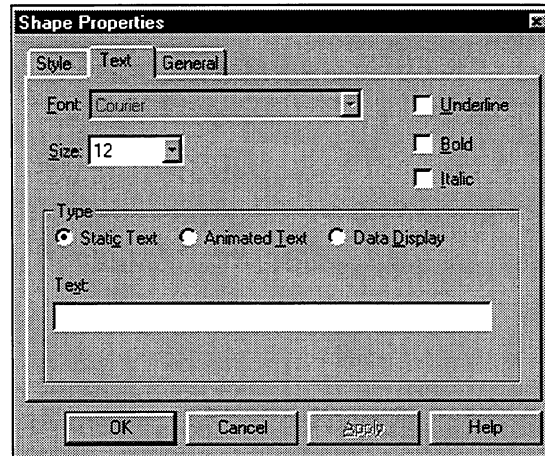

Figure 4-5. Text Properties Page
5. Click on the Text tab to access the Text properties page, as shown in Figure 4-5.